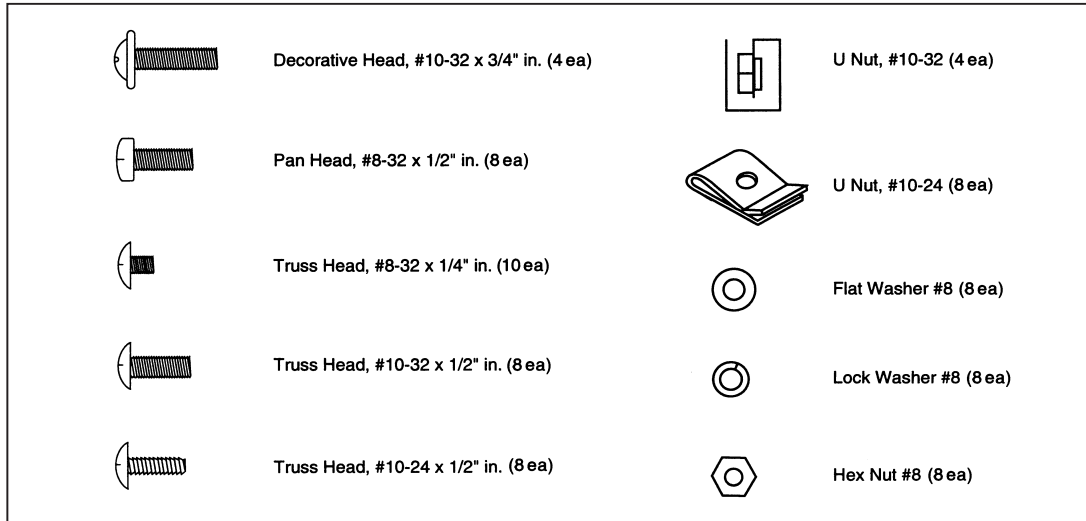

Figure A-2. Screw Identification
- c. Attach each ear to the Instrument using the two 8-32 x ½ inch Pan Head Screws (4 each) provided in the kit. See Figure A-2, screw identification.